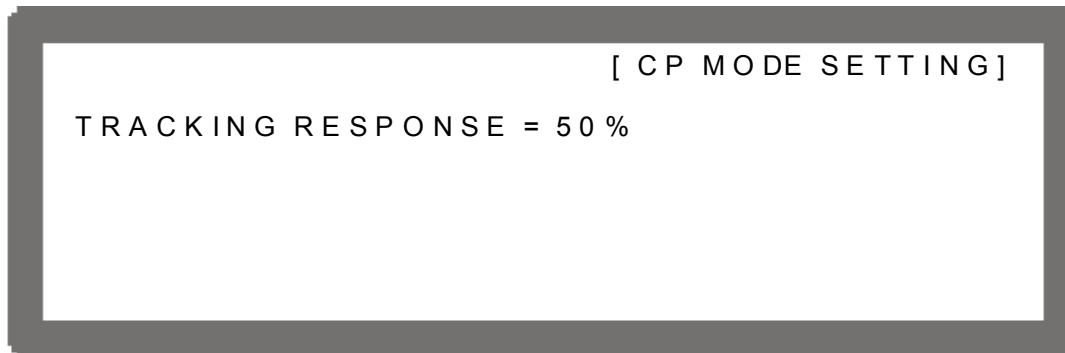

Figure 4-25
1. Use the numeric (0~9) keys or “Rotary” (⊙) knob to set the value. The input range is 1~100 as Figure 4-25 shows. The smaller the number the slower the response speed but higher stability.